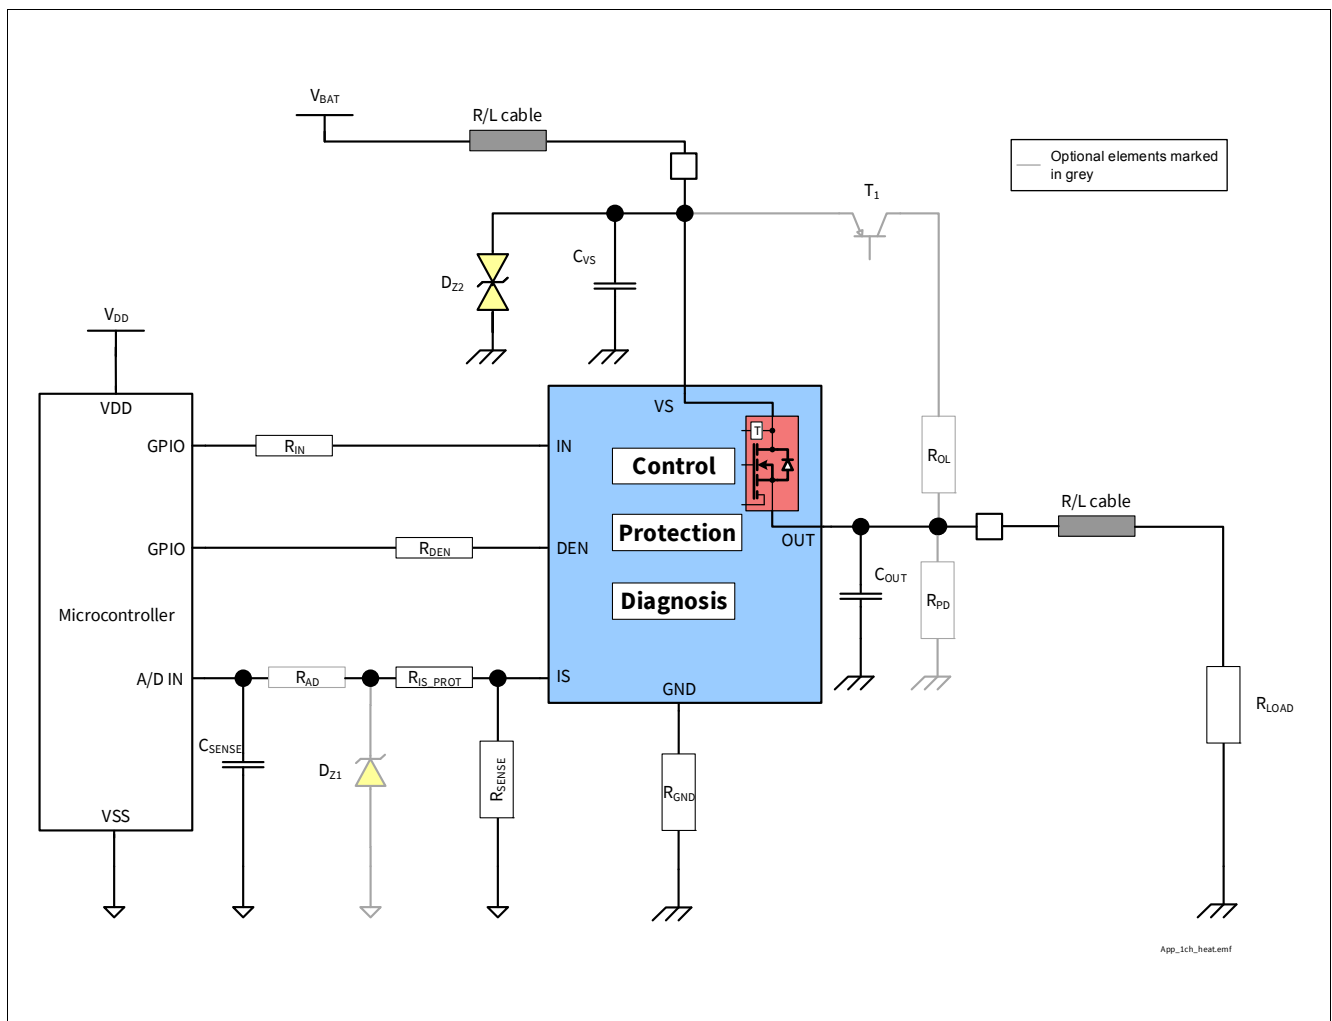
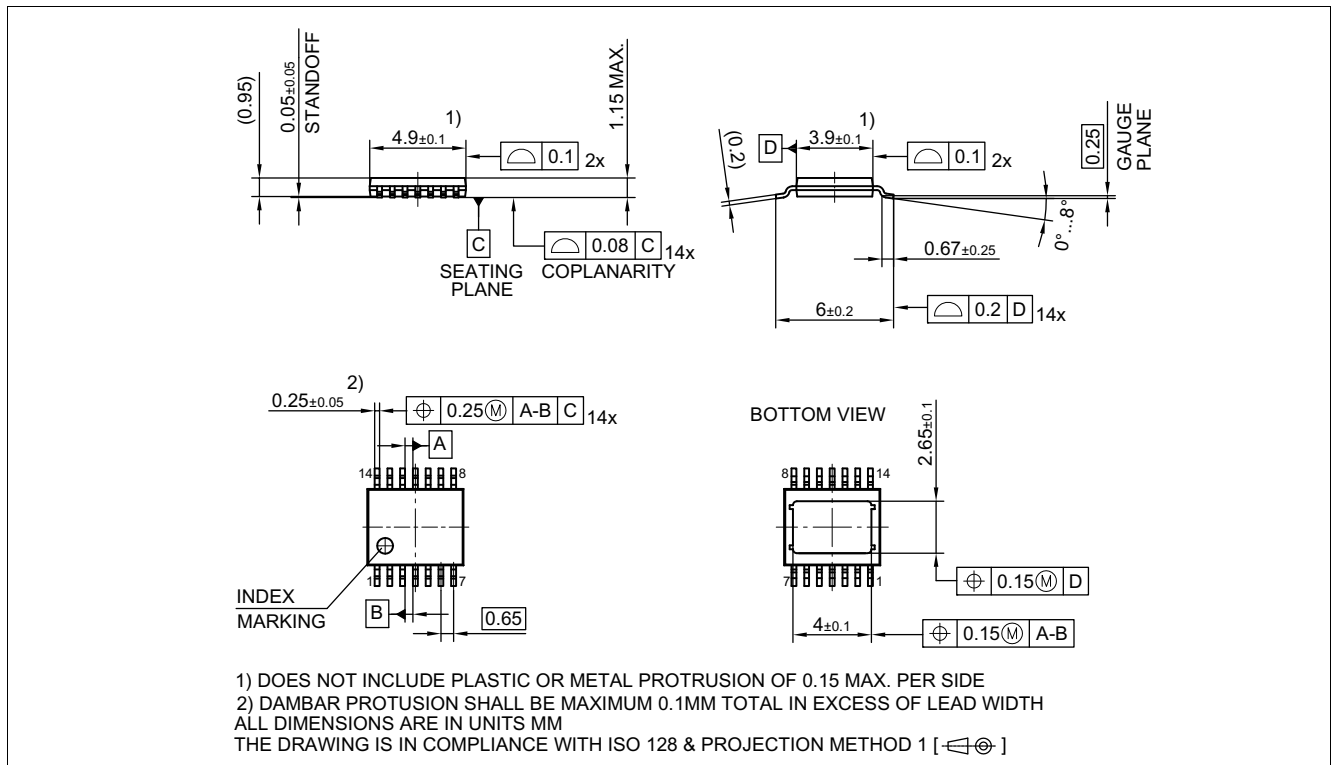
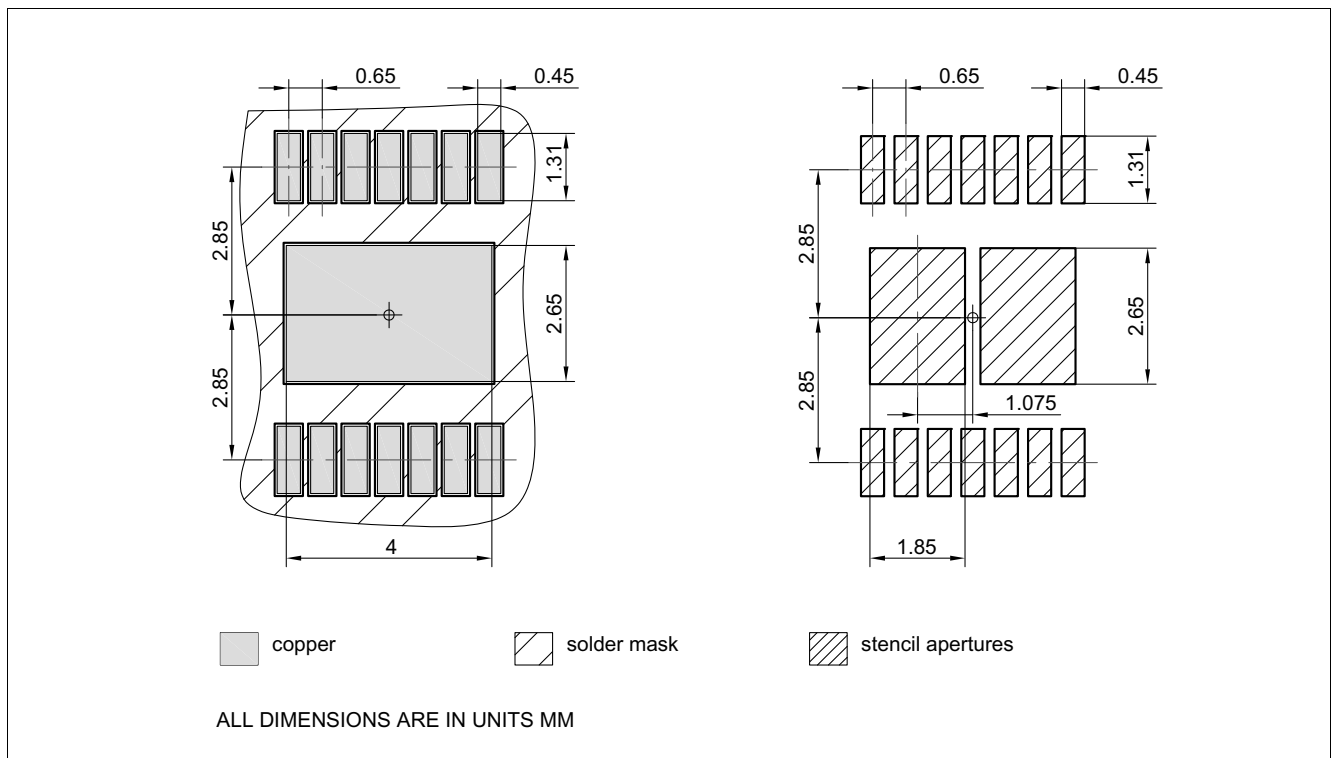

Figure 37 BTS7004-1EPP Application Diagram
Figure 38 PG-TSDSO-14 (Thin (Slim) Dual Small Outline 14 pins) Package Outline
Figure 39 PG-TSDSO-14 (Thin (Slim) Dual Small Outline 14 pins) Package pads and stencil
1.01, 2019-02-05	<p>Figure 9, Figure 10 updated</p> <p>P_7.5.11.10 updated (Min./Typ./Max.: - / - / 10 μA \rightarrow - / - / 15 μA)</p> <p>Page 1: updated figure product</p> <p>Table 22 updated punctuation</p> <p>Chapter 9.3, Chapter 9.3.1 updated (typo)</p> <p>Page 1: updated (Package PG-TSDSO-14-22 \rightarrow Package PG-TSDSO-14)</p> <p>Figure 38 updated (PG-TSDSO-14-22 (Thin (Slim) Dual Small Outline 14 pins) Package Outline \rightarrow PG-TSDSO-14 (Thin (Slim) Dual Small Outline 14 pins) Package Outline)</p> <p>Figure 39 updated (PG-TSDSO-14-22 (Thin (Slim) Dual Small Outline 14 pins) Package pads and stencil \rightarrow PG-TSDSO-14 (Thin (Slim) Dual Small Outline 14 pins) Package pads and stencil)</p> <p>Table 1 updated (Parameter: Minimum Overvoltage protection ($T_J = 25^\circ\text{C}$) \rightarrow Minimum Overvoltage protection ($T_J \geq 25^\circ\text{C}$))</p> <p>Table 1 updated (Symbol: $I_{VS(OFF)}$ \rightarrow $I_{VS(OFF)_85}$)</p> <p>P_6.5.21.1 updated (Symbol: $I_{VS(OFF)}$ \rightarrow $I_{VS(OFF)_85}$)</p> <p>P_6.5.21.2 updated (Symbol: $I_{VS(OFF)}$ \rightarrow $I_{VS(OFF)_150}$)</p> <p>P_4.2.11.3 updated (Note or Test Condition: \rightarrow -)</p> <p>Figure 29 updated</p> <p>Figure 1 updated</p> <p>Figure 37 updated</p> <p>P_4.1.0.21, P_4.1.0.22, P_4.1.0.23, P_4.1.0.24 updated (footnote ESD standards)</p> <p>Table 1 updated ($R_{DS(ON)}$ \rightarrow $R_{DS(ON)_150}$), ($V_{DS(CLAMP)}$ \rightarrow $V_{DS(CLAMP)_25}$)</p> <p>Chapter 8.5.2 updated phrasing</p> <p>Chapter 6.4 added conditions</p> <p>Chapter 7.5 added conditions</p> <p>Chapter 8.7 added conditions</p> <p>Figure 28 updated (Over Load \rightarrow Overload, deleted bow)</p> <p>Chapter 9.6 added conditions</p> <p>P_9.6.4.8 removed line before the footnote</p> <p>P_9.6.4.9 removed line before the footnote</p>